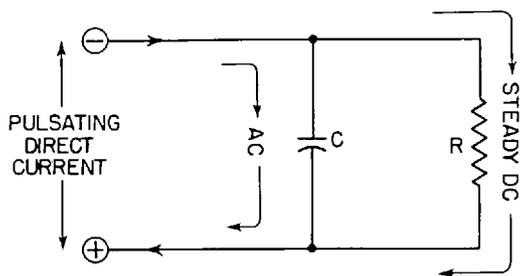

Fig. 34-10. How a capacitor may be used to separate a-c from d-c components of a current.
current, such as we may obtain from the rectifier of a power supply, contains both direct- and alternating-current components. If, now, a capacitor is connected across a source of pulsating direct current, as illustrated in Figure 34-10, the a-c component will find a ready path through the capacitor (C). The steady d-c component, however, will be unable to flow through C but must flow through resistor R (the load). You now can fully understand the use of filter capacitors in the power supply (see Chap. 18).